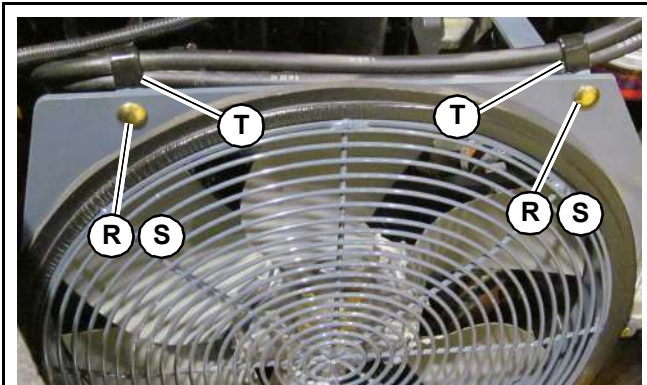

Fig. 299 – Disconnect Fan Shroud and Fuel Lines
21. Remove two locknuts (S, Fig. 299), two clamps with fuel hoses (T), and two carriage bolts (R) from the top of the fan shroud and two shroud brackets.